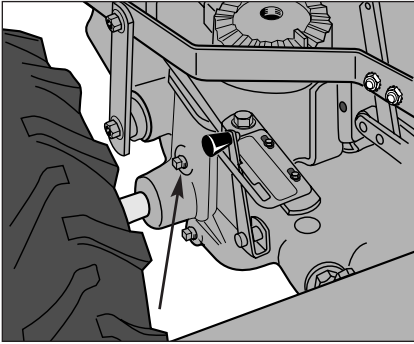

Figure 5-7: Remove oil level check plug. Gear oil should seep out if the level is sufficient.
2. Use a 3/8" wrench to remove the oil level check plug on the left side of the transmission housing (Figure 5-7).
3. Slowly pour gear oil through a clean funnel into the transmission. Stop when gear oil begins to flow from the oil level check hole on the left side of the transmission (B, Figure 5-7).
2. Remove the oil level check plug (Figure 5-7) with a 3/8" wrench. This vents the transmission for faster oil draining.